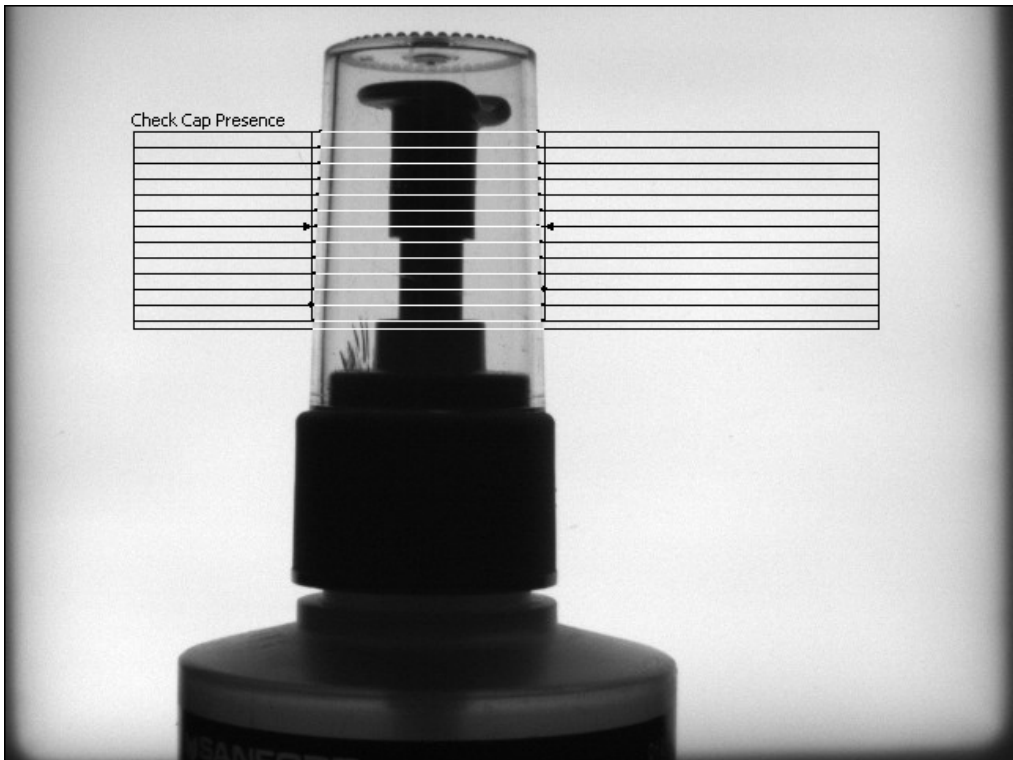

Figure 6-8. Checking for Cap Presence
5. Draw an ROI around the area in the image where a cap should appear, as shown in Figure 6-8.